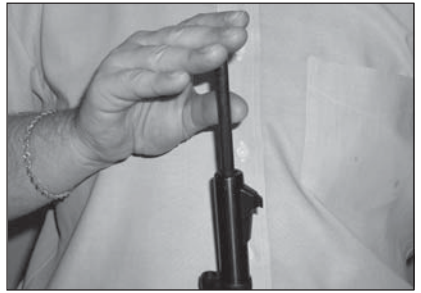

Figure 6
9. With ramrod, push projectile down on top of powder, firmly, but without crushing the powder or pellets. (See Figure 6).